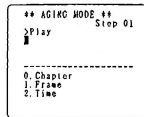

Fig. 12
- 2) Press the [CHAPTER/FRAME] key. Press [1] when the menu is displayed. (Fig. 12)